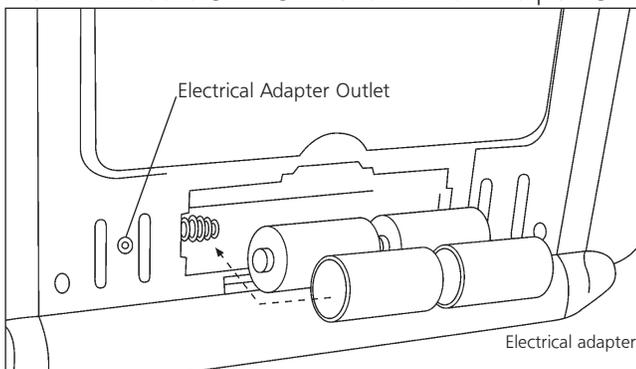

Figure 2
12. Installation of 4 D-cell batteries is required for fan operation. Battery box is located on lower back panel of heater. Follow instructions on battery cover for correct battery installation. See figure 2.
13. Heater fan can also be powered by electrical adapter F276127. Required adapter to be 6 volt DC up to 800 milliamp current with positive tip polarity. See figure 2.
13. Installation of 4 D-cell batteries is required for fan operation. Battery box is located on lower back panel of heater. Follow instructions on battery cover for correct battery installation. See Figure 2.
14. Heater fan can also be powered by electrical adapter, F276127. Required adapter to be 6 volt DC up to 800 milliamp current with positive tip polarity. See Figure 2.
4. Remove (4) screws securing back cover to heater. Lift up slightly to release (2) plastic hooks on top of back cover.
6. Remove (3) screws attaching lower baffle to expose burner air openings.
9. Inspect and clean pilot (mounted to bracket) by using a vacuum or apply air pressure through the holes in the pilot indicated by the arrows in Figure 2.